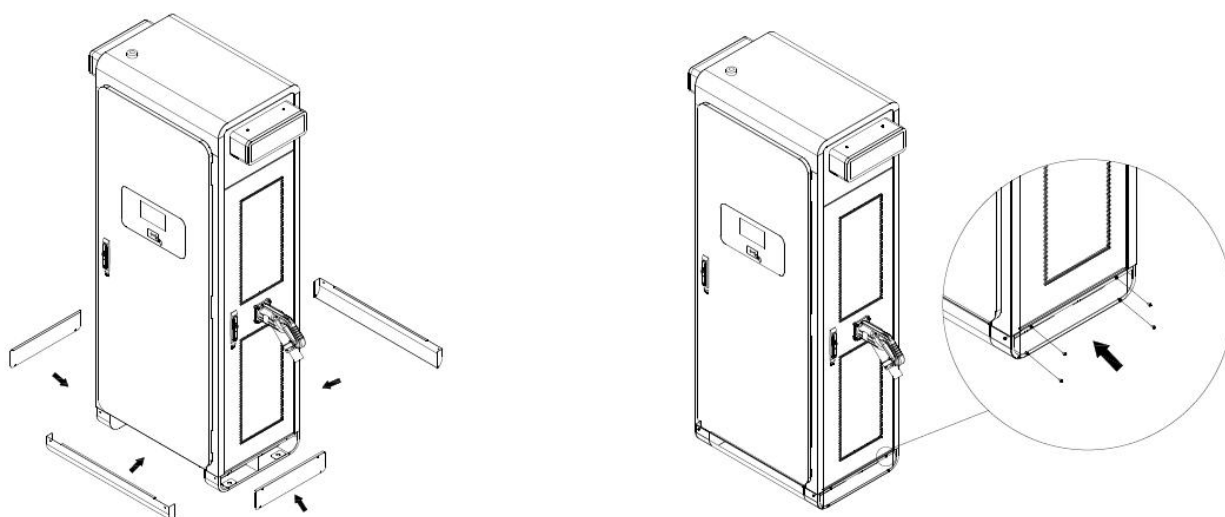

Figure 13
- Use a screwdriver and M6*15 screws to secure the sealing plates on the four sides in the arrow direction, as shown in Figure 13.